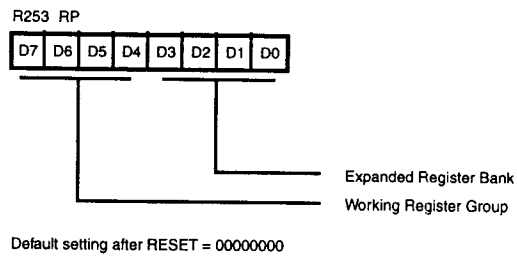

Figure 14. Register Pointer Register
**Expanded Register File.** The register file has been expanded to allow for additional system control registers, and for mapping of additional peripheral devices along with I/O ports into the register address area (Figure 13). The Z8 register address space R0 through R15 has now been implemented as 16 groups of 16 registers per group. These register groups are known as the ERF (Expanded Register File). Bits 7-4 of register RP select the working register group. Bits 3-0 of register RP select the expanded register group (Figure 14). The registers that are used in the multiply/divide unit reside in the Expanded Register File at Bank E and those for the additional timer control words reside in Bank D. The rest of the Expanded Register is not physically implemented and is open for future expansion.